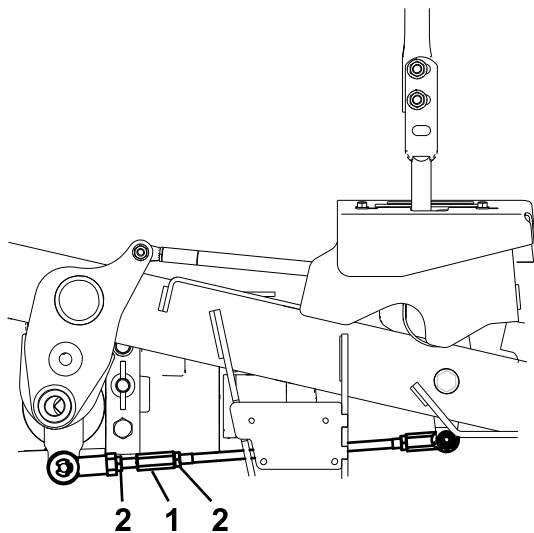

Figure 67
10. Adjust the pump control rod lengths by rotating the double nuts on the rod in the appropriate direction until the wheels slightly creep in reverse (Figure 67).